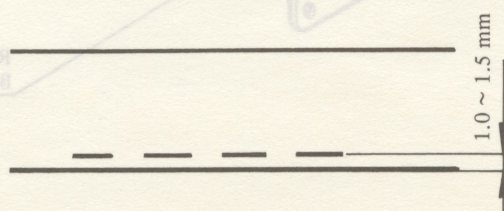

Fig. 13-4
Ribbon left position can be adjusted by bending part "A" of the ribbon lift cam follower so that underline "—" can be printed at 1.0 ~ 1.5 mm upward from the ribbon lower edge. Bend the part ① downward when the underline is higher than that range, and upward when lower than that range. (Fig. 13-4)